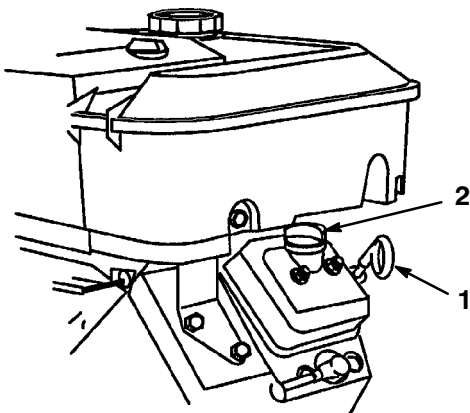

Figure 11
- Remove dipstick and wipe it with a clean rag (Fig. 11). Insert dipstick into tube and make sure it is seated fully. Remove dipstick and check level of oil.
- If oil level is low, remove filler cap from valve cover (Fig. 11) and pour oil into opening until the oil level is up to the “FULL” mark on the dipstick; refer to Engine Oil, page 23, for proper oil type and viscosity. Add the oil slowly and check the level often during this process. **Do not overfill.**